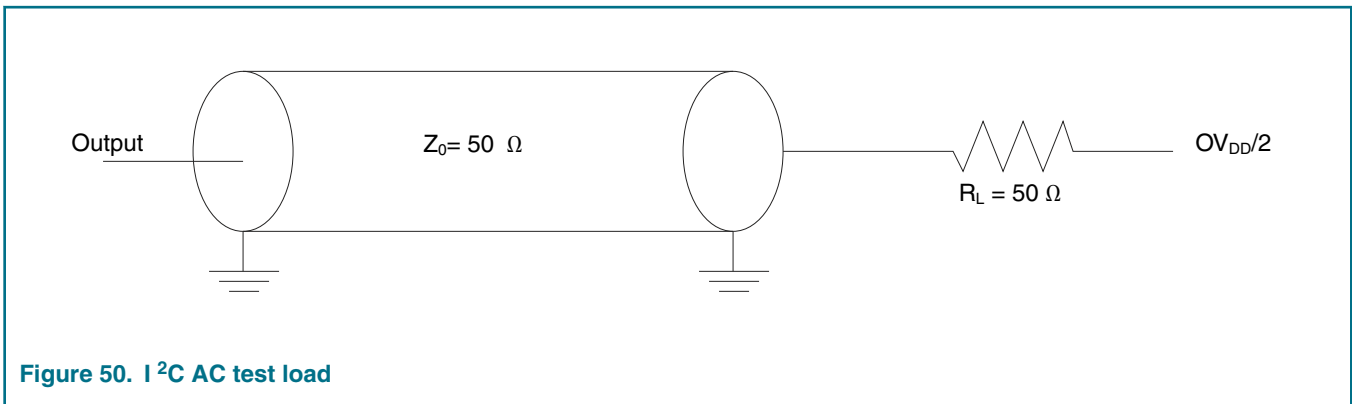
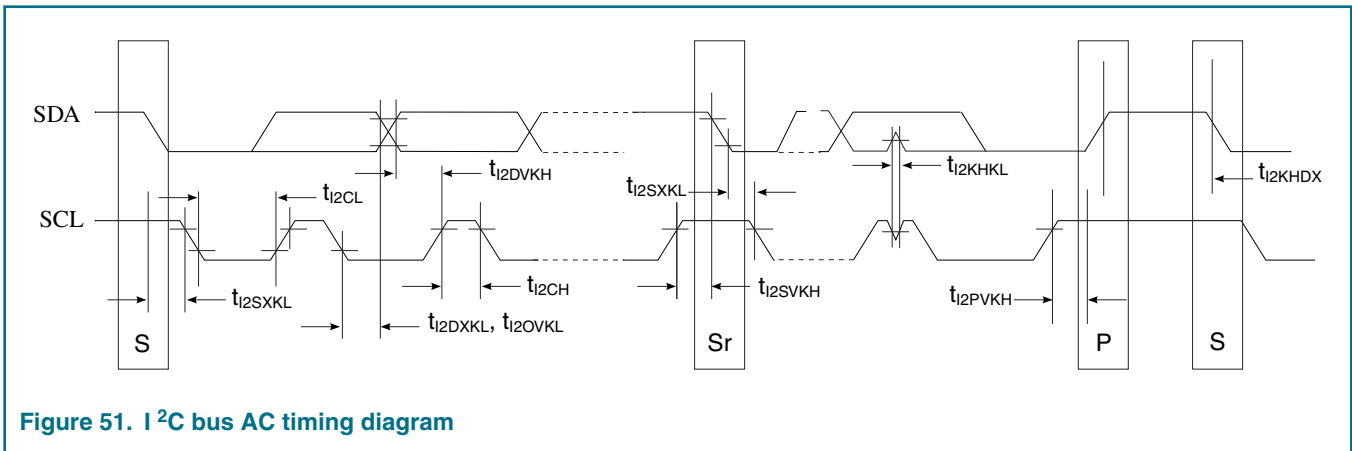

Figure 50. I²C AC test load
Figure 51. I²C bus AC timing diagram
<p>1. As a transmitter, the chip provides a delay time of at least 300 ns for the SDA signal (referred to the V_{IHmin} of the SCL signal) to bridge the undefined region of the falling edge of SCL to avoid unintended generation of a START or STOP condition. When the chip acts as the I²C bus master while transmitting, it drives both SCL and SDA. As long as the load on SCL and SDA are balanced, the chip does not generate an unintended START or STOP condition. Therefore, the 300 ns SDA output delay time is not a concern.</p> <p>2. The maximum t_{I2OVKL} has to be met only if the device does not stretch the LOW period (t_{I2CL}) of the SCL signal.</p> <p>3. The symbols used for timing specifications herein follow these patterns: $t_{(first\ two\ letters\ of\ functional\ block)(signal)(state)(reference)(state)}$ for inputs and $t_{(first\ two\ letters\ of\ functional\ block)(reference)(state)(signal)(state)}$ for outputs. For example, t_{I2DVKH} symbolizes I²C timing (I2) with respect to the time data input signals (D) reaching the valid state (V) relative to the t_{I2C} clock reference (K) going to the high (H) state or setup time. Also, t_{I2SXKL} symbolizes I2C timing (I2) for the time that the data with respect to the START condition (S) went invalid (X) relative to the t_{I2C} clock reference (K) going to the low (L) state or hold time. Also, t_{I2PVKH} symbolizes I2C timing (I2) for the time that the data with respect to the STOP condition (P) reaches the valid state (V) relative to the t_{I2C} clock reference (K) going to the high (H) state or setup time.</p> <p>4. See Figure 50. on page 152.</p> <p>5. See Figure 51. on page 152.</p>